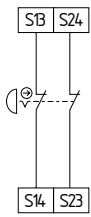

Fig. 6
**Dual-channel emergency stop circuit with command devices to ISO 13850 and IEC 60947-5-5 (Fig. 6)**